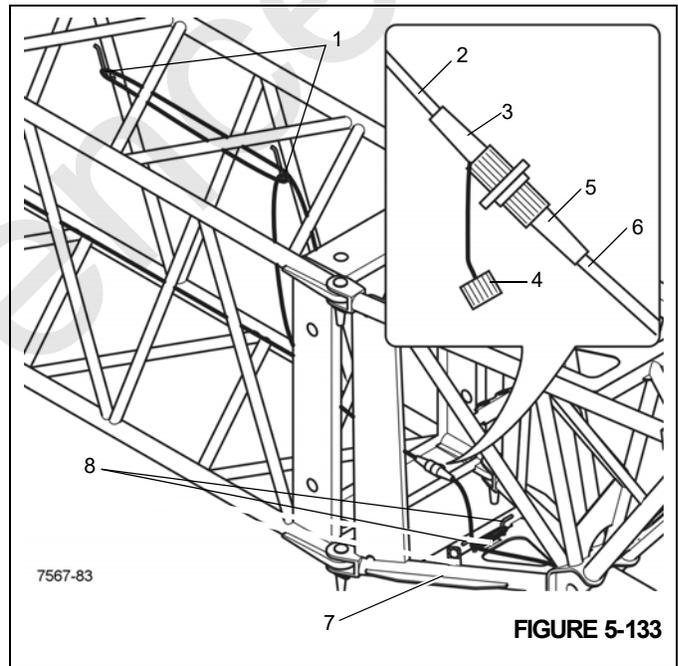

FIGURE 5-133
1. Unwind the cable (2), (Figure 5-133) from the holder (1), (Figure 5-133).
2. Remove the cap (4), (Figure 5-133) off the socket (3), (Figure 5-133).
3. Unwind the cable (6), (Figure 5-133) from the holder (8), (Figure 5-133).
4. Remove the bridging plug (5), (Figure 5-133) from the dummy socket (7), (Figure 5-133) and plug it into the socket (3), (Figure 5-133).
5. Wind up the cable (8), (Figure 5-133) far enough on the holder (7), (Figure 5-133) so it will not be damaged during operation.
6. Wind up the cable (2), (Figure 5-133) far enough on the holder (1), (Figure 5-133) so it will not be damaged during operation.